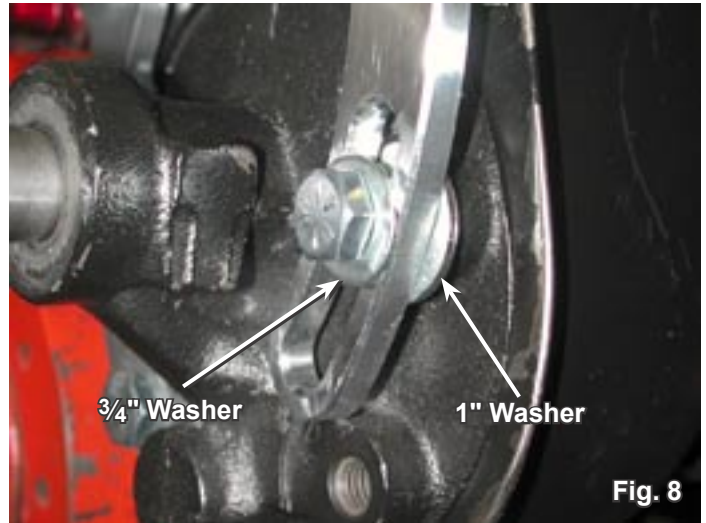

Fig. 8
7. Once proper pump to upper bracket spacing has been achieved secure the pump to the upper mounting bracket using one (1) M10 x 20mm hex head bolt through adjustment slot in upper support bracket placing one $\frac{3}{4}$ " washer between bolt and bracket and one 1" washer between the bracket and the pump. (do not tighten at this time) (fig. 8).